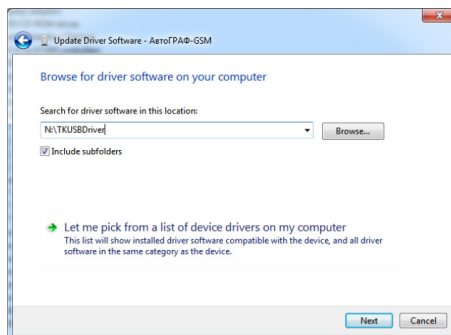

Fig.3.
4. Browse to the location where the drivers are saved (Fig.3).